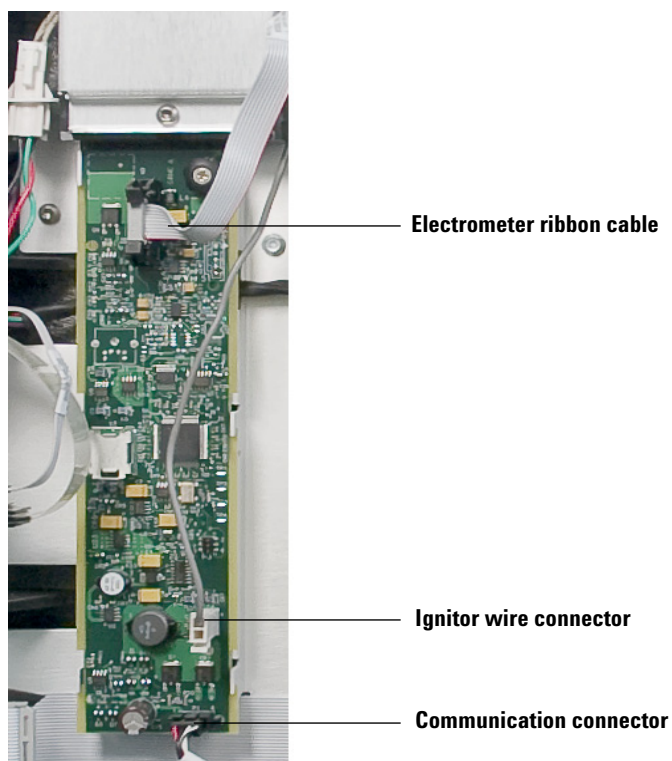

Figure 8 Connecting to the FID board
- 1 Locate the electrometer ribbon cable on the FID, and connect it to the top connector on the board. (See Figure 8.)